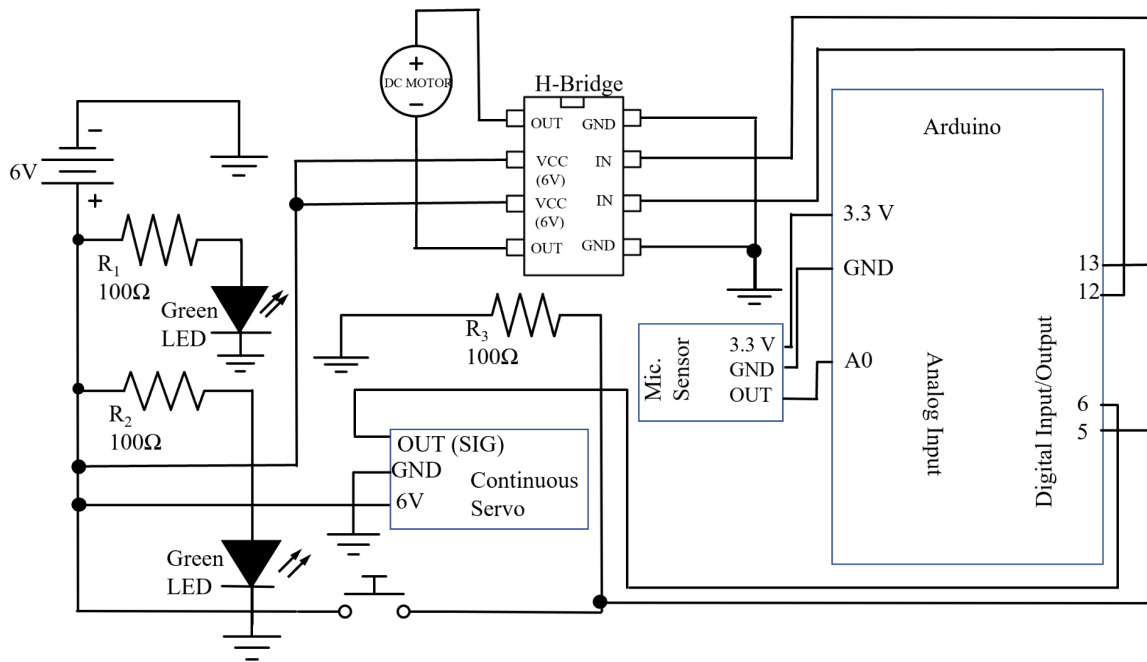

Figure 1: Circuit Diagram Made in PowerPoint
1. Tap two small holes in the middle of two tongue depressors using a small screwdriver, and then glue them in an x formation so that the holes overlap (See Figure 1 & 2a/b in Appendix C). The angle of x formation is not consequential.
Figure 1: Hole tapped in the middle of the tongue depressor. The diameter of the hole is approximately 5mm but does not need to be exact, as it depends on the screwdriver used to tap and just needs to be large enough to insert the motor shaft.
Figure 8: Placement of the servo on the APBM Mainframe. The servo should roughly be 56.35 mm away from the top rectangular edge of the top tongue depressor (dimension shown in Figure 1 in Appendix C).